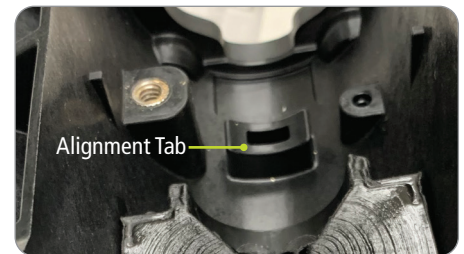

Figure 19
3. Lower CAU to base and engage alignment tab. (Figure 19)